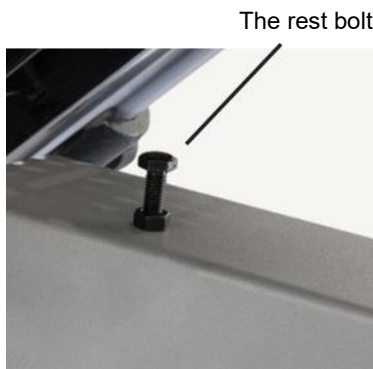

Fig. 39
3. Loosen the 90° table rest bolt's locking Nut and screw the bolt downward, away from the table underside (Fig.39).
7. With the table secured at 90°, adjust the table rest bolt up or down until it contacts the table underside (Fig.39).